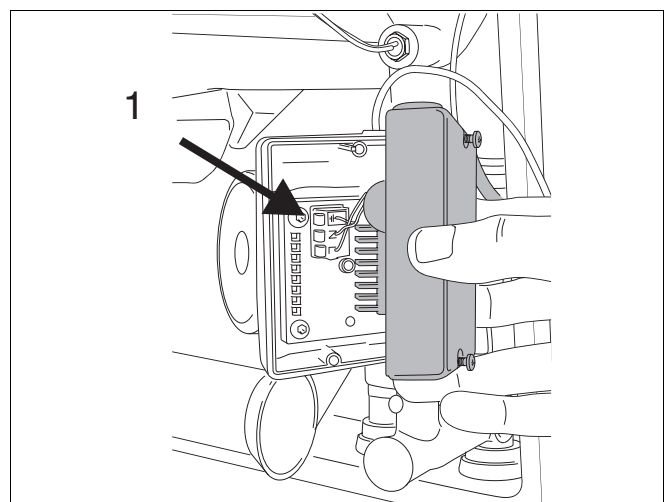

fig. 63 Cable modulating pump
- Loosen cable (fig. 63, item 1). Note order of cable terminals.